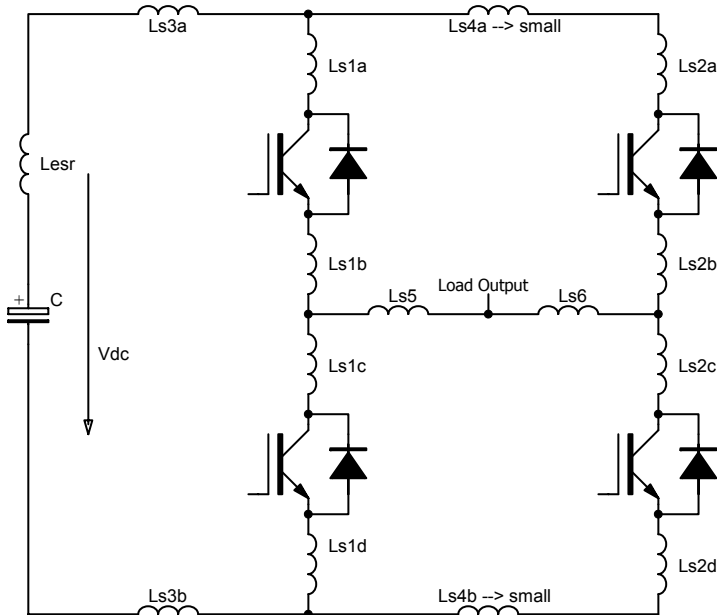

Fig. 15: Half-bridge topology with stray inductances
- The converter should be constructed as symmetrically as possible with respect to the paralleled IGBT modules in order to ensure symmetrical operation. The DC-link stray inductance of each paralleled IGBT module in particular should be similar ( $L_{s1} \approx L_{s2}$ ,  $L_{s5} \approx L_{s6}$  in Fig. 15).